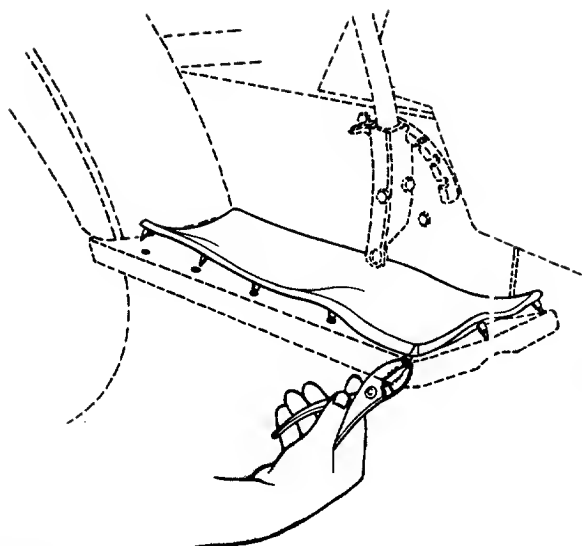

FIGURE 9.
1. **Optional foot pads:** Position one foot pad on top of the running board on the tractor, lining up the studs on the bottom of pad with the holes in the running board. Pull the studs through the holes in the running board using a pair of pliers. Repeat on other side of tractor. See figure 9.